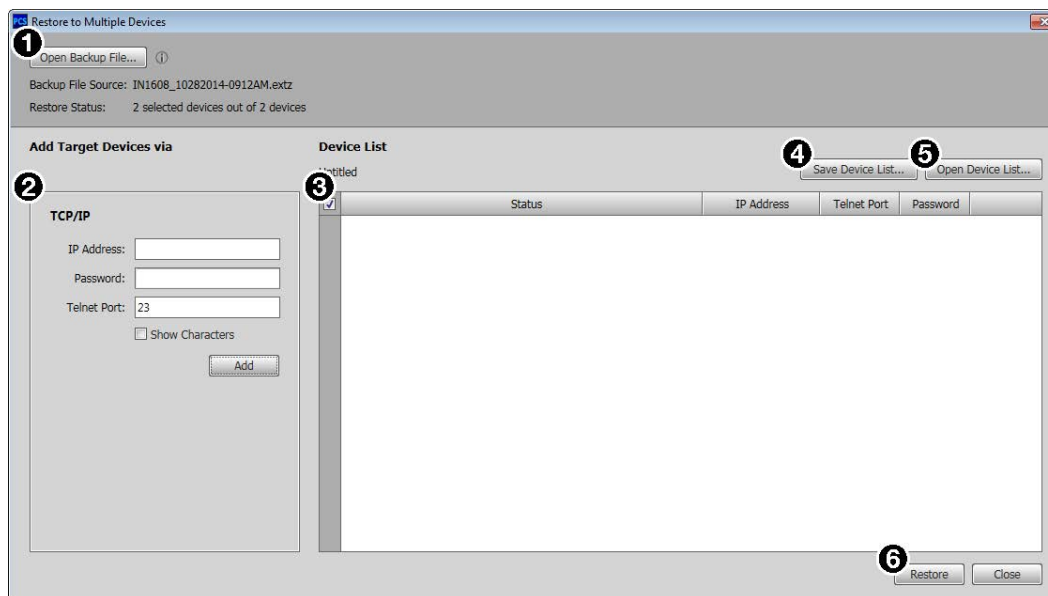

Figure 52. Restore Multiple Devices Dialog Box
From the **Device** drop-down menu, select **Restore... > Restore to Multiple Devices...** The Restore to Multiple Devices dialog box opens (see figure 52).
- In the TCP/IP panel (see figure 52, 2, on the previous page), enter the necessary information for the target device in the **IP Address**, **Password**, and **Telnet** fields and click the **Add** button.